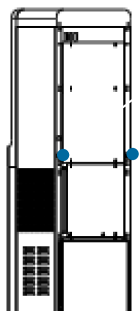

Figure 9 ·
2. Open the drain valve of the cold and hot water tanks and empty the water stored in the water tank (Figure 9).